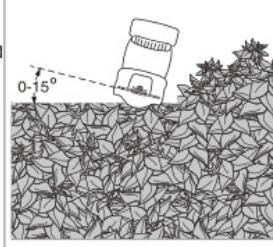

Fig.8
- Start by trimming the top of the hedge. Slightly tilt the tool (up to 15° relative to the line of cut) so that the blade tips point slightly towards the hedge (FIG.8). This will cause the blades to cut more effectively. Hold the tool at the desired angle and move it steadily along the line of cut. The double-sided blade allows you to cut in either direction.